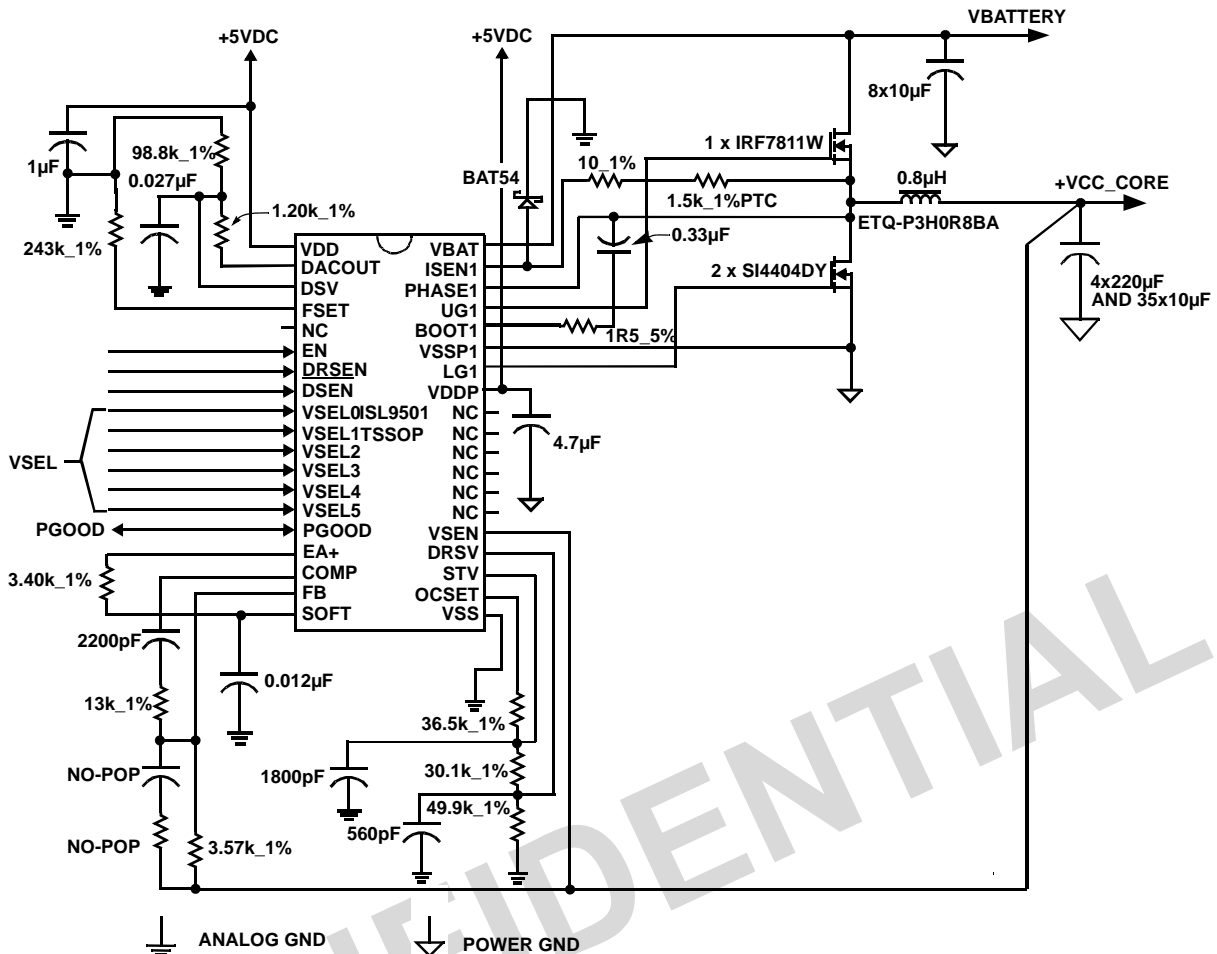

FIGURE 12. TYPICAL APPLICATION CIRCUIT FOR CORE VOLTAGE REGULATOR
Figure 12 shows the ISL9501, Synchronous Buck Converter circuit used to provide the CORE voltage regulation. The circuit uses 2 channels for delivering up to 25A steady state current, and has a 250kHz channel switching frequency. This circuit also switches to single channel operation for Deep and Deeper Sleep modes of operation. For thermal compensation, PTC resistors are used as sense resistors. The output capacitance is less than $3m\Omega$ of ESR, and are (4) 220µF, 4V Sp-Cap parts in parallel with (35) high frequency, 10µF ceramic capacitors.